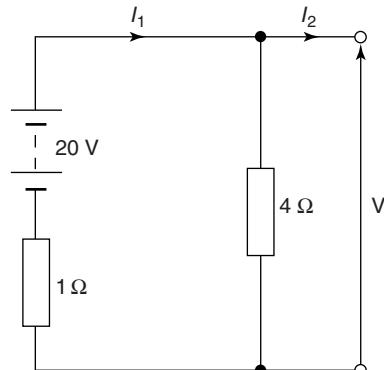

Figure 13.96
- 13 For the circuit shown in Fig. 13.96, voltage V is:
- 14 For the circuit shown in Fig. 13.96, current I_1 is: